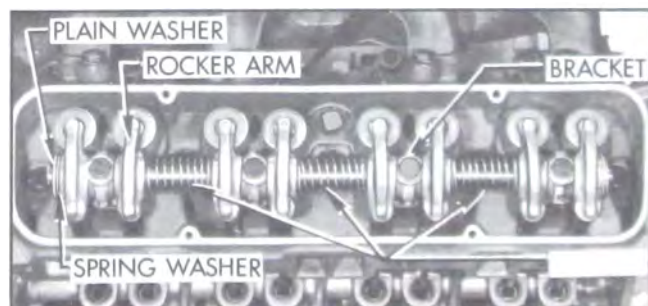
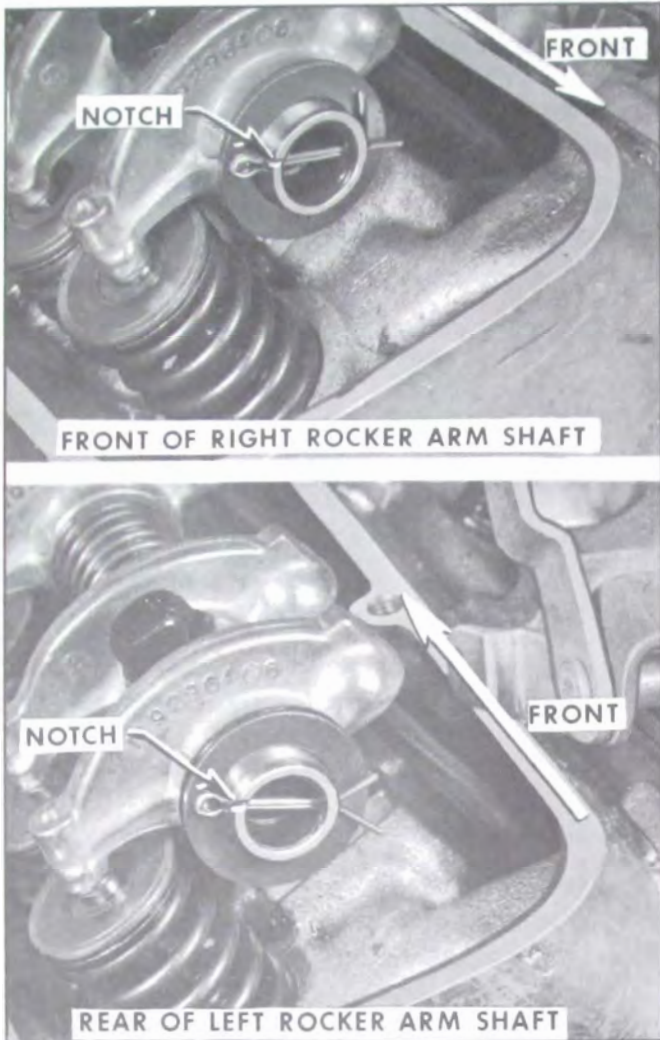

Figure 2-25—Rocker Arm Shaft Assembly (V-8 shown)
Figure 2-26—Rocker Arm Shaft Installation
4. Assemble springs, rocker arms and brackets on shaft as shown in Figure 2-25. Take care that the assembly for the right side has the notch in the shaft forward and the left side has the notch to the rear. See Figure 2-26.
6. Install bolts with plain washers through the brackets and shaft so the notch in the right assembly is up and to the front and the notch in the left assembly is up and to the rear. See Figure 2-26.
3. Check notch on one end of rocker arm shaft. Be sure it is positioned as shown in Figure 2-26.